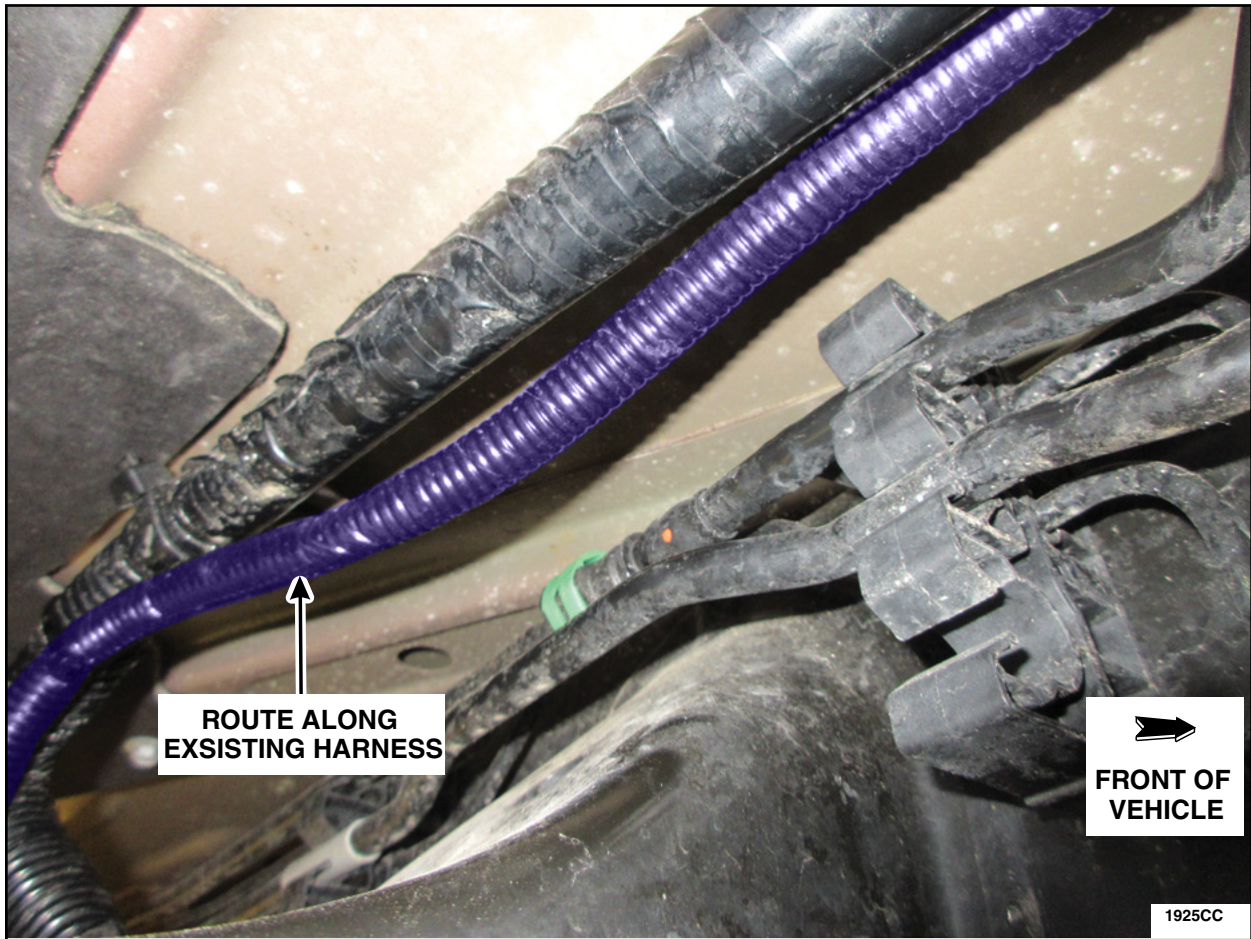

FIGURE 39
42. Continue to route the new harness along the existing underbody harness until it reaches connector C422. See Figure 39 and 40.